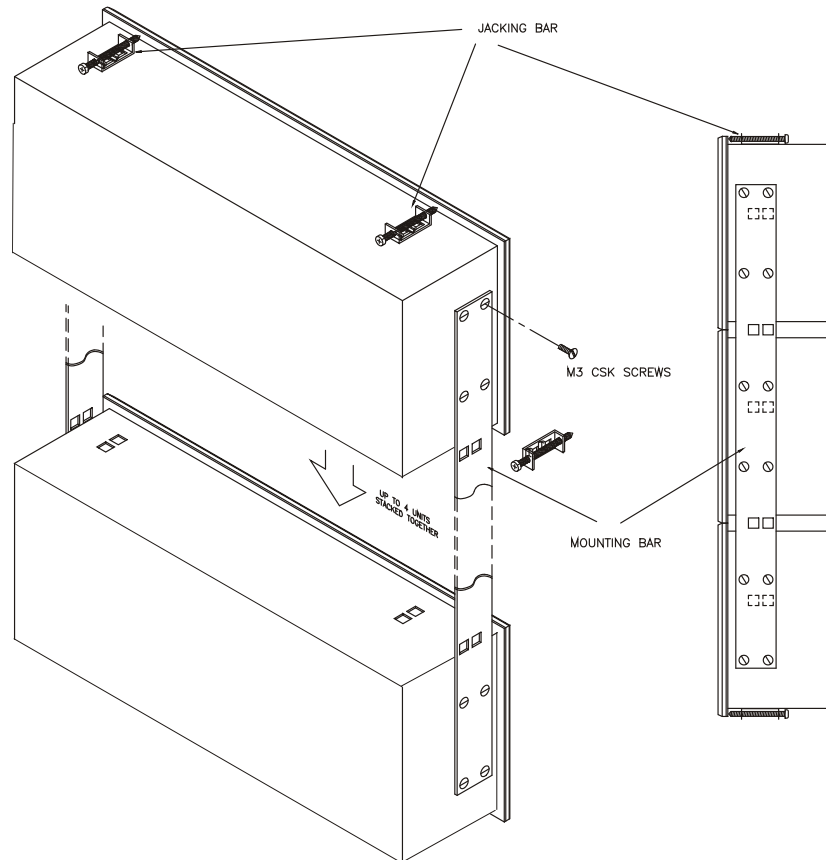

Figure 3-6 – Vertical Stacking Arrangement.
Up to 4 Omni8C's or Omni16C's may be stacked together into a single column, as shown in Figure 3-6. Figure 3-6 – Vertical Stacking Arrangement. Omni8Cs and Omni16Cs may not be mixed in the same vertical stack.
2. Mount the pre-assembled vertical stacks of Omni8/16Cs side-by-side in the panel cut-out by using 4 jacking bars per stack, as shown in Figure 3-6.